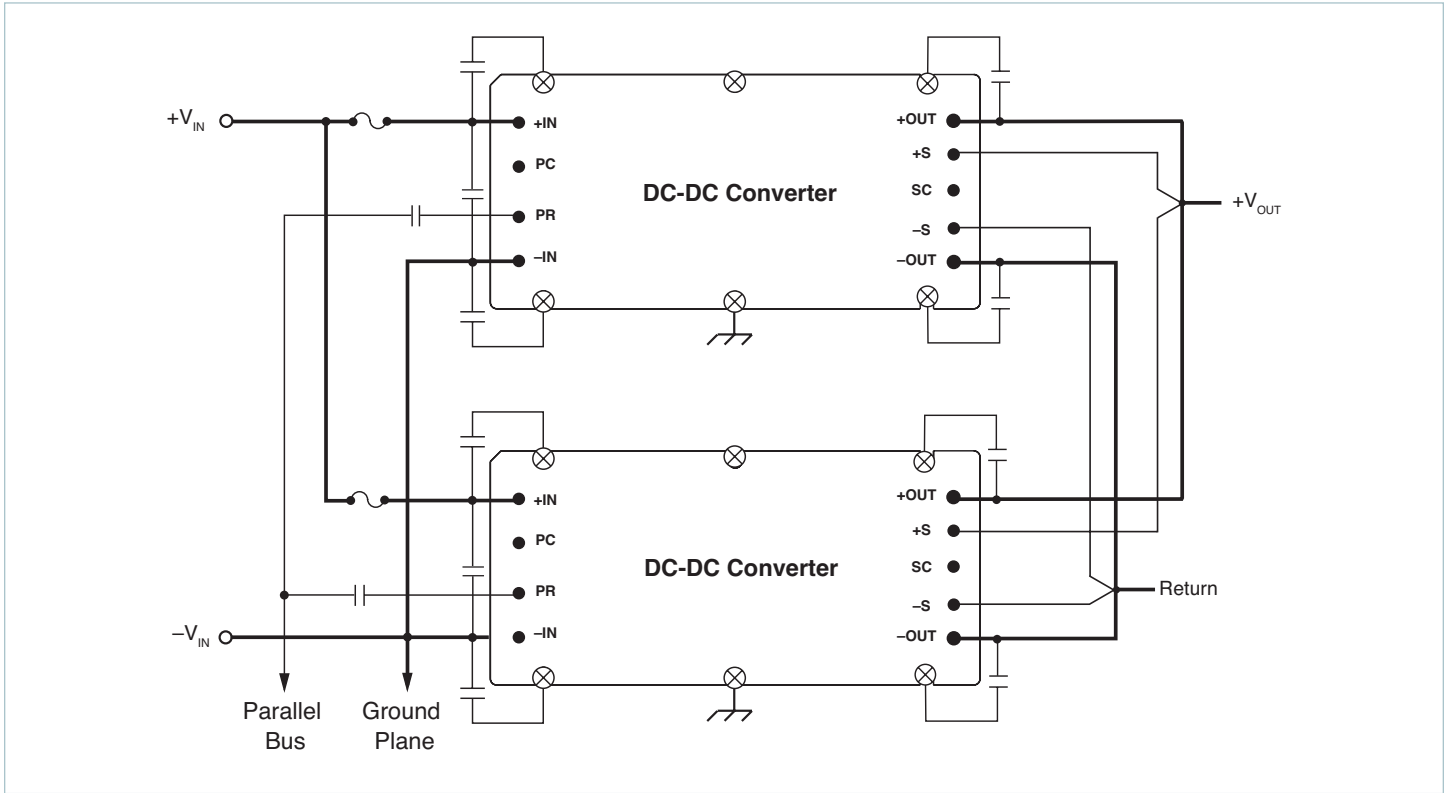

Figure 5.2 — Synchronous power architecture simplifies current-sharing control and enhances fault tolerance
**Driver / Booster Arrays:** Most Vicor converters can employ the driver / booster array for increased power. (Figure 5.2) Driver / booster arrays usually contain one intelligent module or driver, and one or more powertrain-only modules or boosters. The driver is used to set and control output voltage, while booster modules are used to increase output power to meet system requirements.
The converters use this pulse as a current-sharing signal for power expansion and fault-tolerant applications. The pulsed signal on the parallel bus simplifies current-sharing control by synchronizing the high-frequency switching of each converter. The parallel pin is a bi-directional port on each module used to transmit and receive information between modules. If the lead module relinquishes control, another module in the array will transparently take command with little or no perturbation of the output bus. A pulsed signal gives designers the option to use capacitors (Figure 5.2) or transformers between parallel pins, providing DC-blocked coupling. Such coupling prevents certain failure modes internal to a single module from affecting the other modules in the array, thus providing an increased level of fault tolerance.